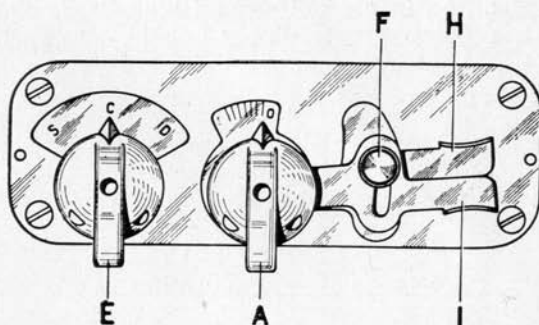

Fig. 34
- 2) Set index of knob « E » completely to the right, that is on letter « D » (fig. 34).